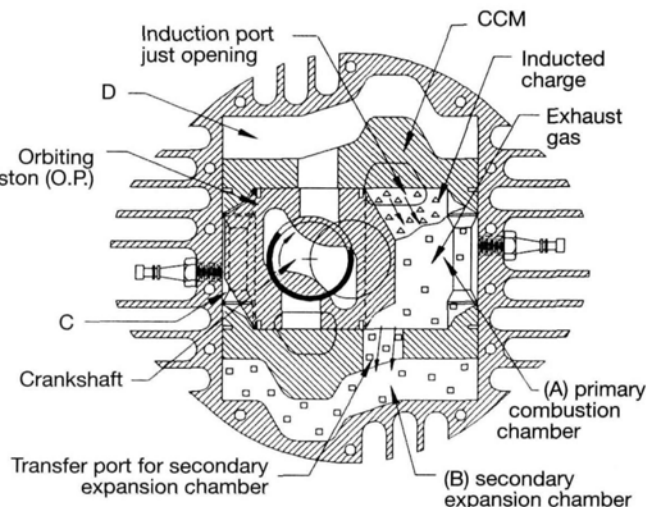
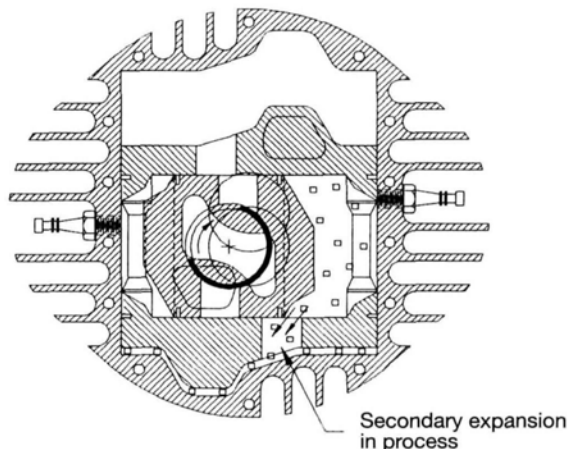

Figure 1. Combustion expansion and start of induction
Figure 4. Exhaust complete, secondary expansion in process
The full-expansion (FE) cycle version of the MCC engine is illustrated in Figures 1 through 4 and photos A, B, C and D on the preceding page. These views are from the rear of the engine and show a clockwise crankshaft rotation. The air/fuel mixture is indicated by triangles, and the expanding exhaust gas is shown by squares. There are four variable volume chambers: A, B, C and D, formed within the power block by the orbiting piston (O.P.) and combustion chamber member (CCM). The right combustion chamber (A) operates with the secondary expansion chamber (B). Likewise, the left combustion chamber (C) operates with the upper secondary expansion chamber (D). Since both pairs of chambers operate independently, the engine is classified as a twin. Both pairs of chambers operate exactly the same, so only the operation of one pair of chambers is explained.
The engine's mode of operation is called "suction induction dual expansion" (SIDE). Figure 1 and photo A show that induction
Figure 4 and photo D illustrate the completion of the exhaust event and the start of the secondary expansion process in chamber B. This dual expansion process begins when the transfer port in the CCM is opened by the orbiting piston. Dual expansion pushes the orbiting piston clockwise as the CCM moves upward. Chambers A and B will expand until the pressure in the chambers falls below atmospheric pressure, as shown in Figure 1. As the CCM moves upward, it will open the induction port and a new cycle will begin.